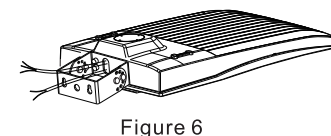

Figure 6
Step 2: Install the mounting on the fixture. (Figure 6)